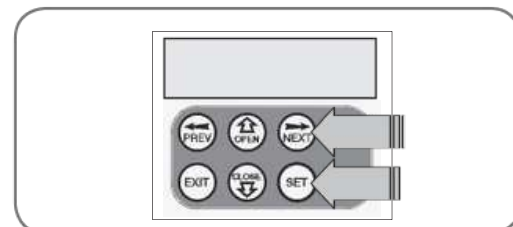

fig 36
1. Press NEXT to navigate to the Menu 1 (Fig. 36).